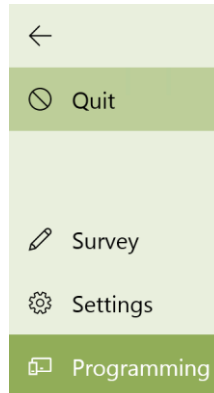
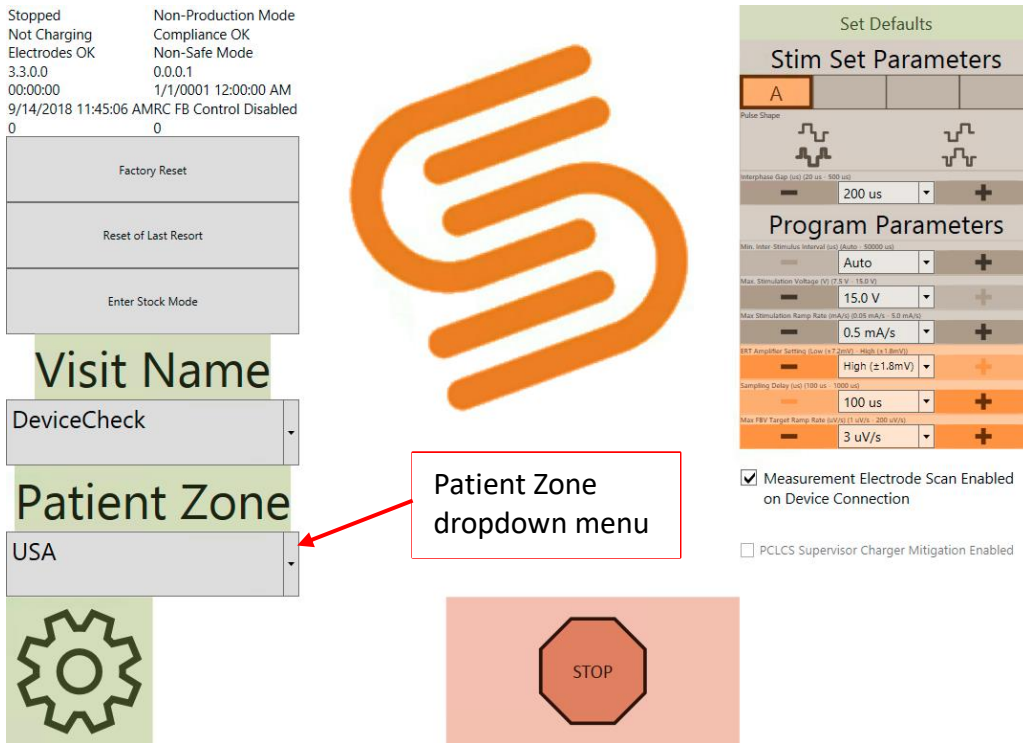

Figure 6.7: Navigation menu.
Figure 6.8: Settings menu with Patient Zone dropdown menu highlighted.
4. Navigate to the settings page by opening the navigation menu  and touching *Settings* (see Figure 6.7). Select the appropriate Patient Zone (see Figure 6.8).
5. Return to the CLS programming page by opening the navigation menu  and touching *Programming* (see Figure 6.7).